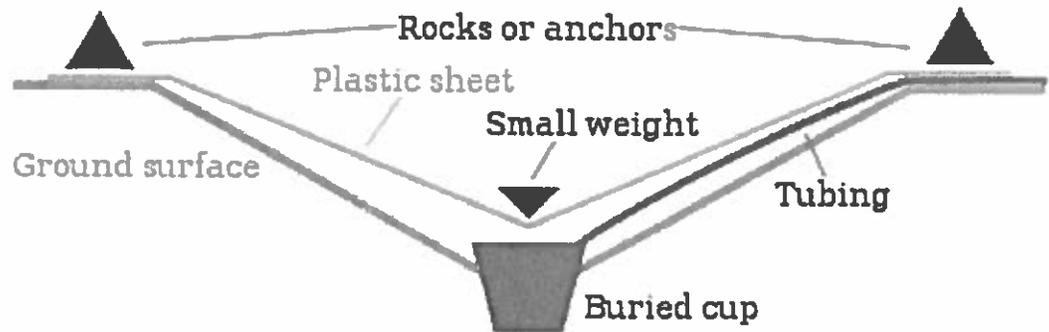

Figure 1. "Evapo still" diagram using solar energy to desalinate water. [Credits: Smack (UTC) & Happyrabbit (UTC)]
Nicholas's first design for a desalination device is shown in Figure 1. His design did not go so well and collected very little water. Like any good inventor, Nicholas did not let an initial setback discourage him. He analyzed what was wrong with the design and set out to improve it.
**Figure 1.** This was Nicholas's first try at a solar-powered desalination device with saltwater starting in the eight small bottles. (Photo from Nicholas Kinsman's display board at the fair.)
that uses solar desalination is shown in Figure 1.
This solar still, shown in Figure 1, gets water from the ground, and lets sunlight shine through a clear plastic sheet to drive evaporation. The pure water vapor from the ground condenses on the cool plastic sheet and drips down from the weighted low point into the buried cup, where it is collected and removed. The basic principles of the solar still are simple, yet effective, as this replicates the way nature makes rain. The sun's energy heats water to the point of evaporation. As the water evaporates, water vapor rises, condensing on a surface for collection. This process removes impurities, such as salts and heavy metals, and eliminates microbiological organisms. The end result is clean water.